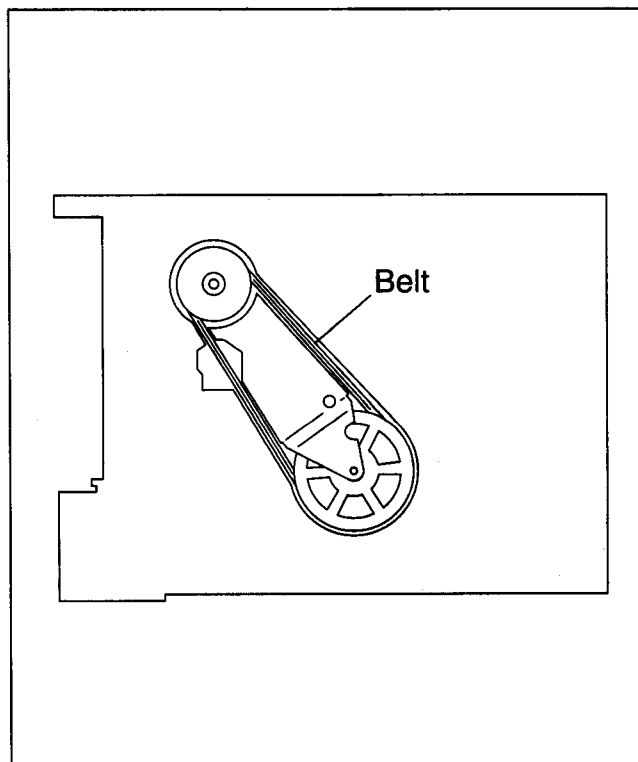

Fig.2-5-10
- (1) Take out 1 slit washer, then remove the lever assembly.
- (2) Disengage the belt(capstan motor) from bottom of mechanism assembly first as indicated in Fig.2-5-10.